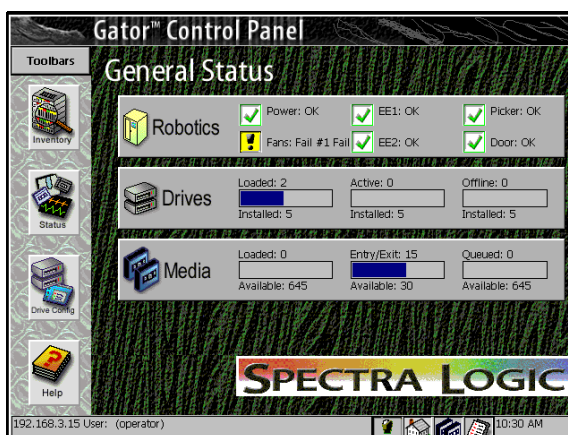

Figure 11-1 The General Status screen.
2. Go to the Library Controller. Select **Status** from the General toolbar. The General Status screen appears (Figure 11-1).